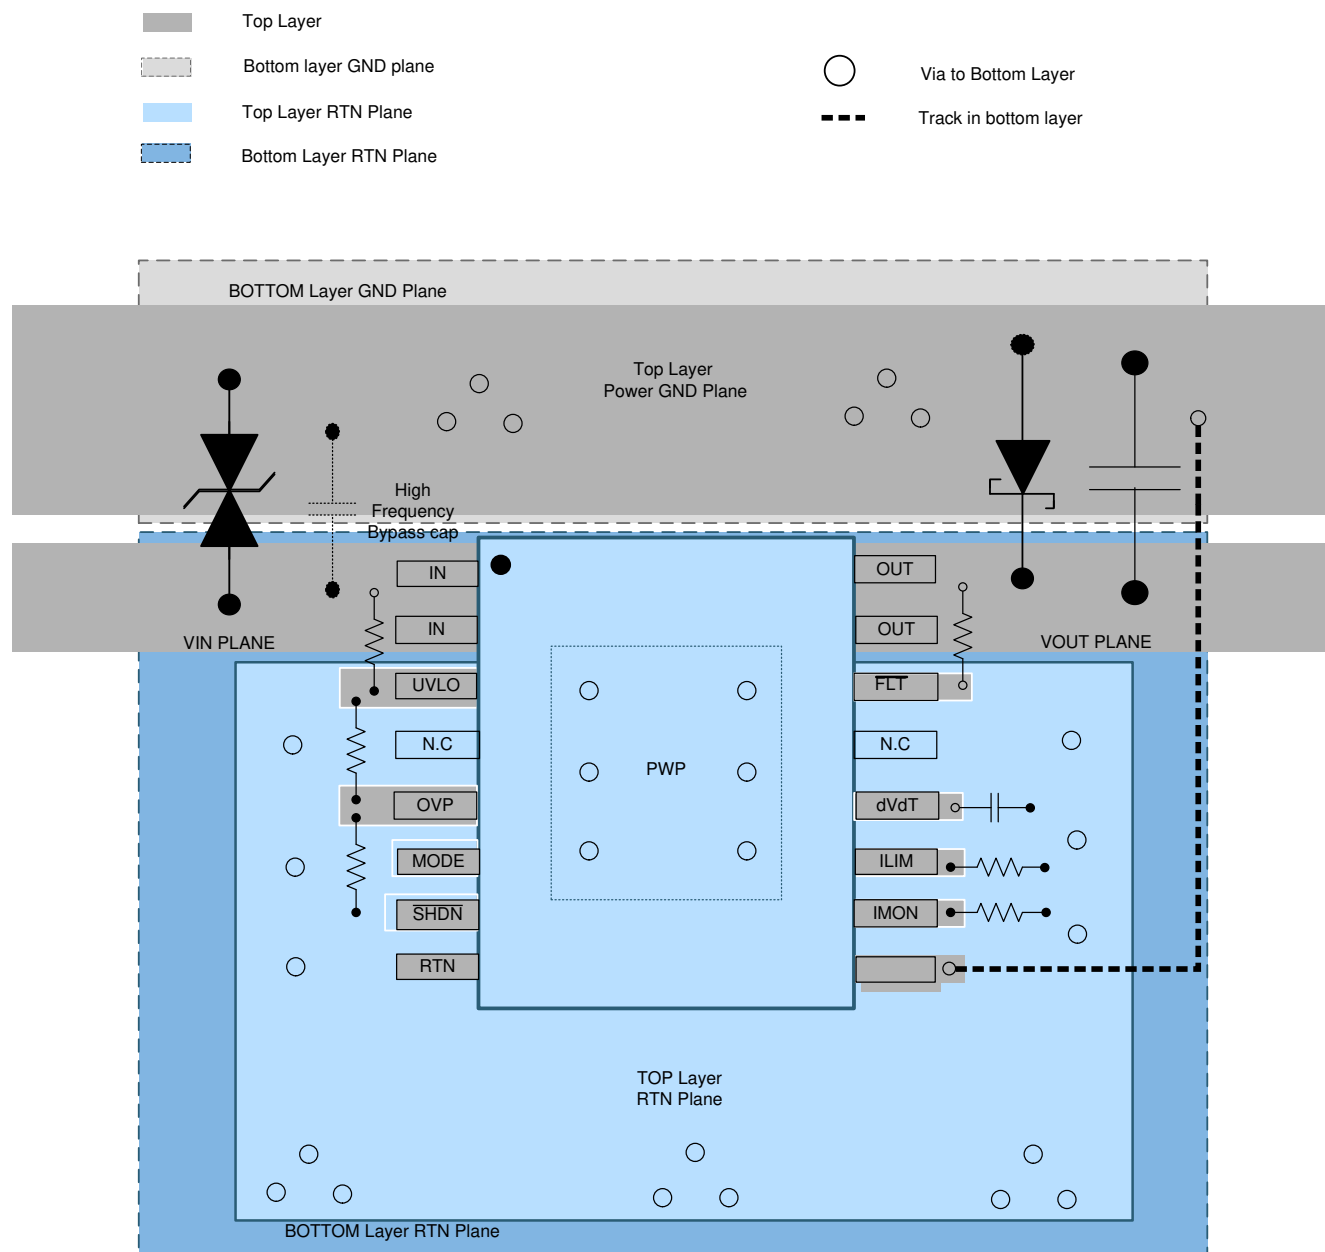
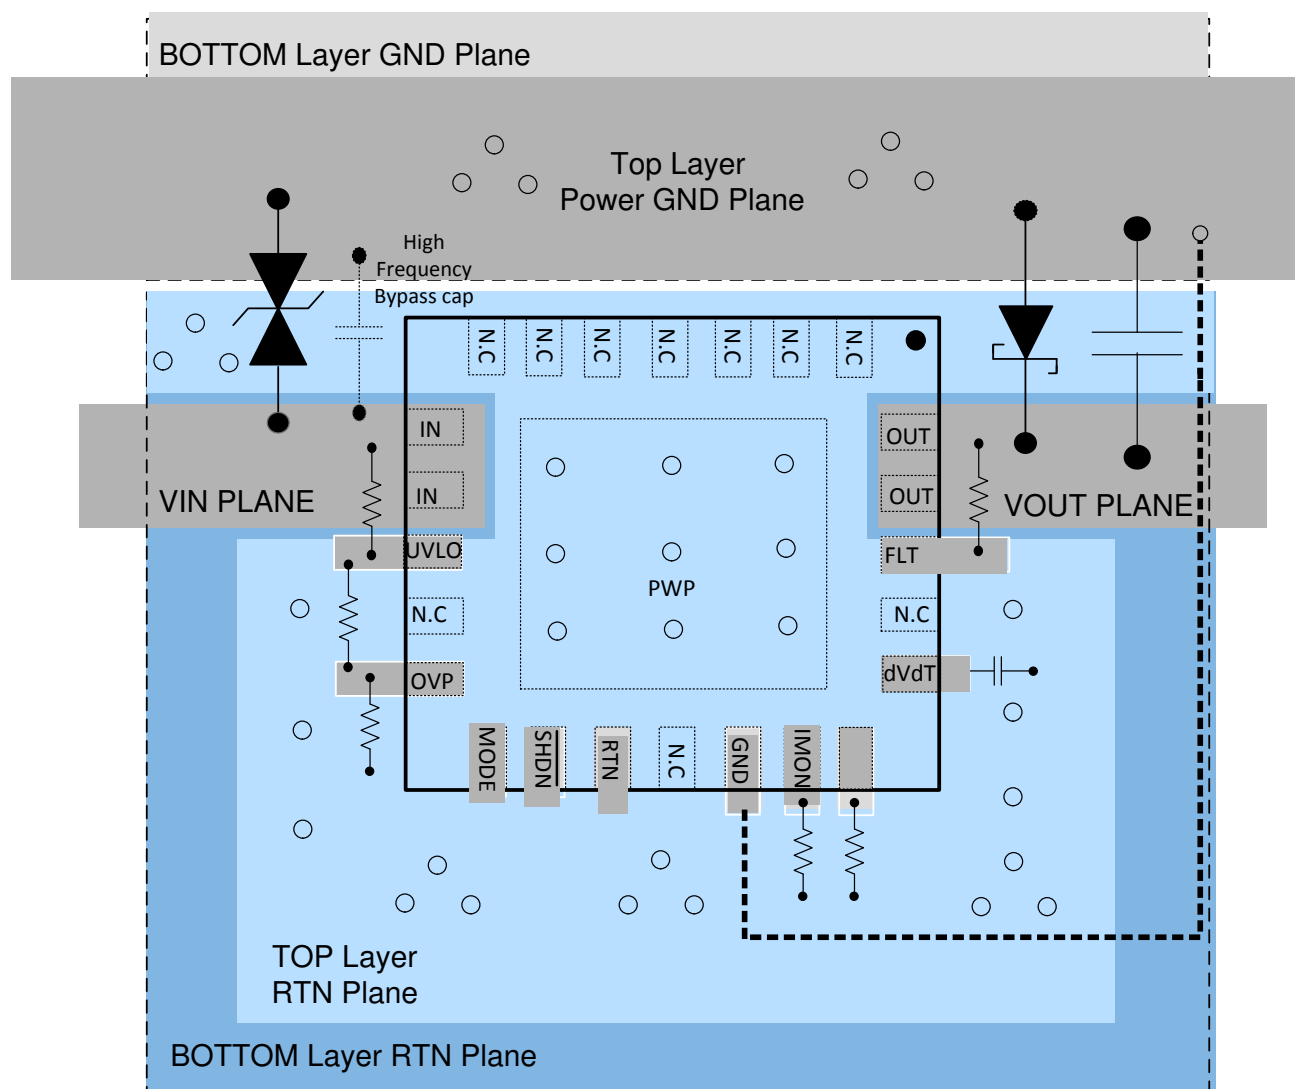

Figure 12-1. Typical PCB Layout Example With HTSSOP Package With a 2 Layer PCB
Figure 12-2. Typical PCB Layout Example With VQFN Package With a 2 Layer PCB
- The optimum placement of decoupling capacitor is closest to the IN and GND terminals of the device. Care must be taken to minimize the loop area formed by the bypass-capacitor connection, the IN terminal, and the GND terminal of the IC. See Figure 12-1 and Figure 12-2 for PCB layout examples with HTSSOP and VQFN packages respectively.